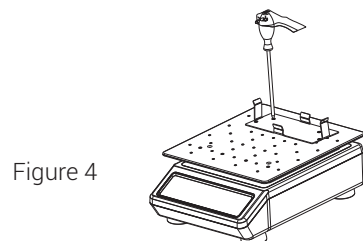

Figure 4
1. Place the test tube rack holder at the corresponding position on the aluminum platform and fasten the 4 sunk screws as shown in the figure 4.